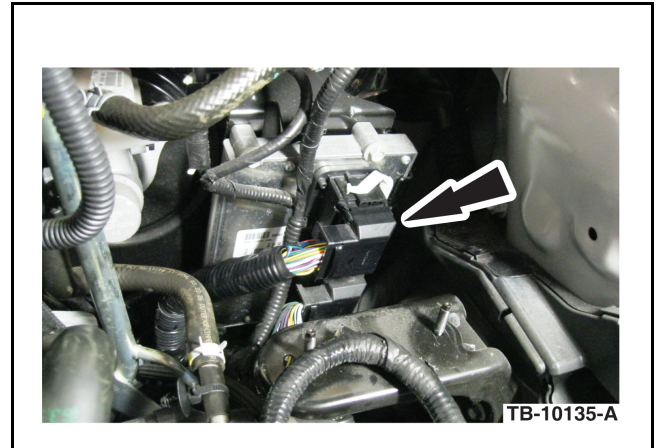

Figure 2 - Article 11-4-23
4. Disconnect C175E (top connector) from the powertrain control module (PCM). (Figure 2)